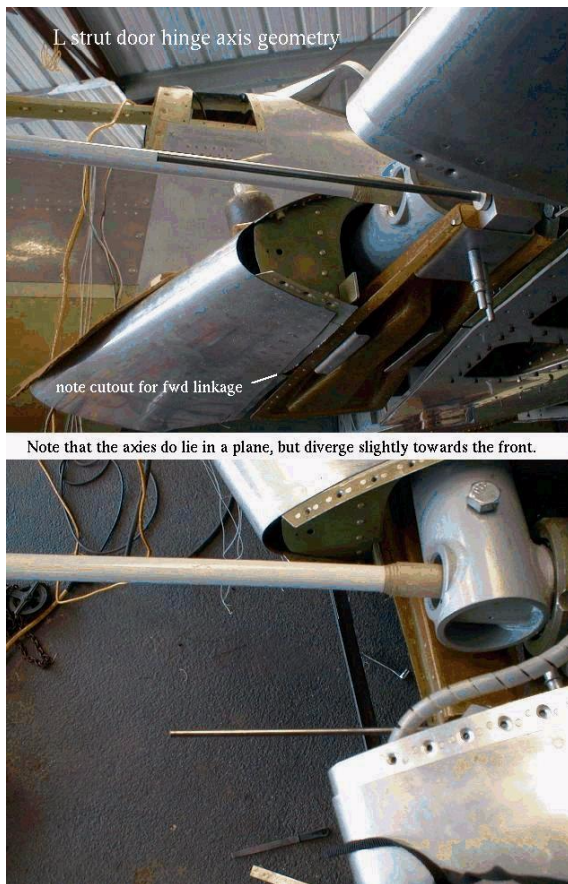
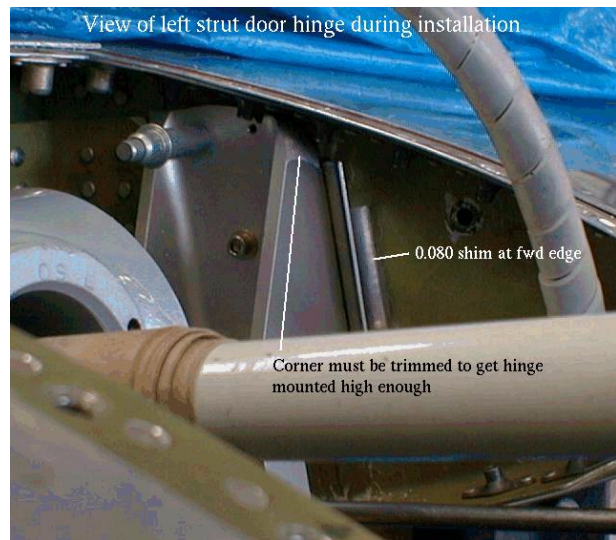
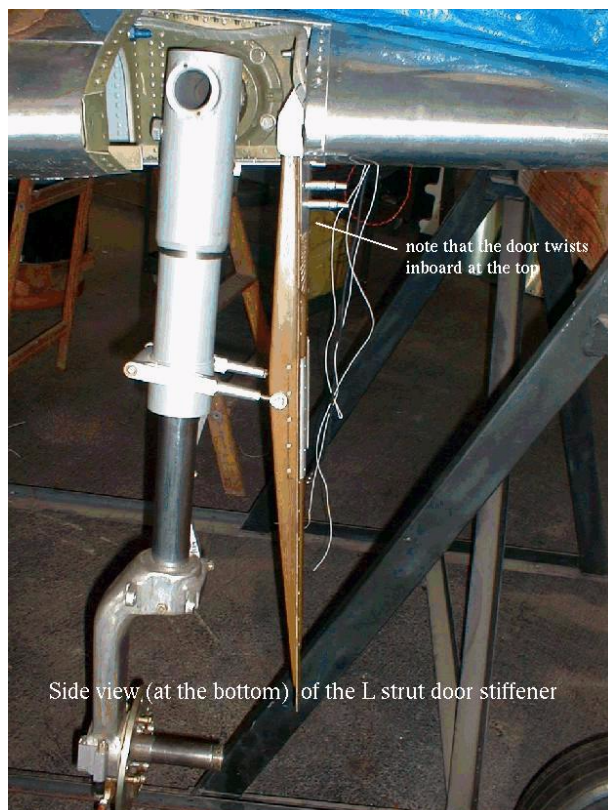

Figure 3.21. The strut door hinge line should be roughly aligned with the trunion axis.
Figure 3.22. The top forward corner of the upper hinge must be trimmed off.
Figure 3.23. Note the pronounced inboard twist in top of the strut door.
It helps to have someone to assist you in this. The best way to accomplish item (4) is to sight the projection of the rods from the side to see if they are in a plane (Figure 3.21), then measure the distance between them at two points to see if they are diverging or converging. Before you can satisfy (2), you will have to relieve the forward top corner of the upper hinge half as illustrated in Figure 3.22 in order to get the hinge mounted high enough. In order to satisfy (1) and (4) you will probably have to install about a 0.08-0.10" tapered shim under the forward edge of the upper hinge half. In order to satisfy (2) and (4) it will be necessary to put considerable twist in the fiberglass stiffener. See Figure 3.23. If you examine it carefully, you will see that some twist is cast into the part. It may be necessary to change the angle at which the lower hinge half is mounted on its bracket. If it is, this can easily be done by loosening the clamp. Once you have everything set, mark the position of the upper hinge on the rib. Also, use a flat sheet of stock to get some idea of how much twist is in the stiffener.